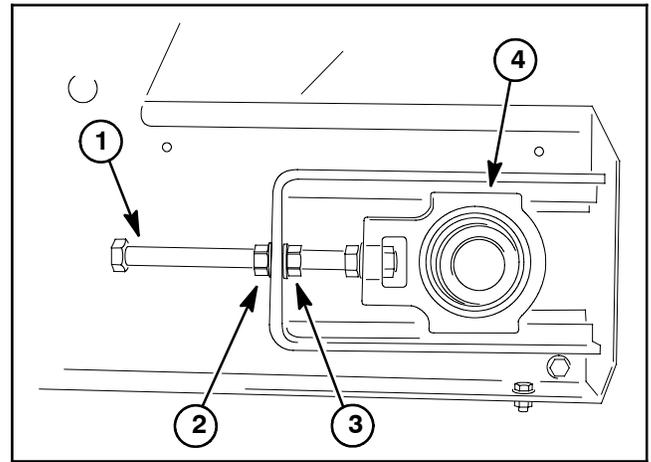

Figure 7
3. On both sides of machine, loosen tension on floor conveyor belt at idler roller shaft (Fig. 7):
3. On both sides of machine, apply tension to floor conveyor belt at idler roller shaft (Fig. 7):